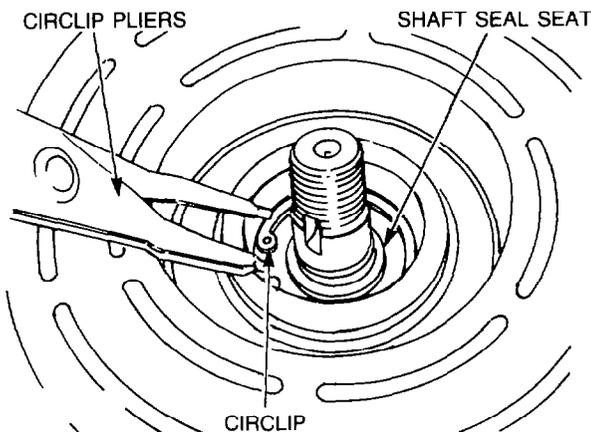

Figure 26 — Shaft Seal Seat Circlip — Removal
- j. Using suitable circlip pliers, remove the shaft seal seat retaining circlip (see Fig. 26).